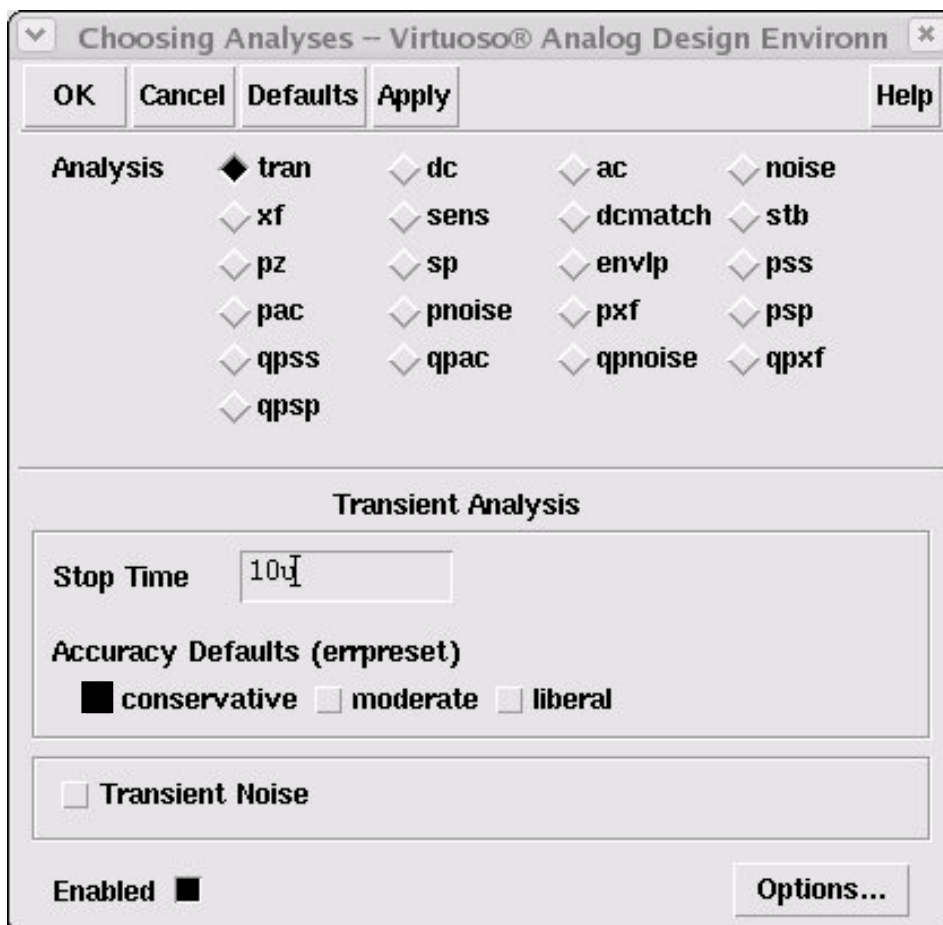

Figure 26: TR Analysis window
- [2] Select ADE/Analyses/Choose.. In the Choosing Analyses window, click on tran and set the options as shown in Figure 26 (i.e. set the stop time to 10u, set the accuracy to conservative).